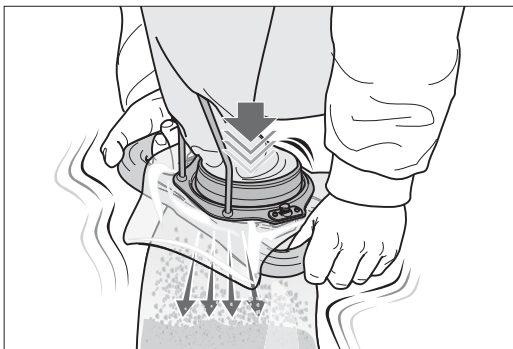

Fig. 20 Empty the dust bag by shaking it vigorously.
- 13 Empty the dust bag into the waste bag by shaking it vigorously (Fig. 20).